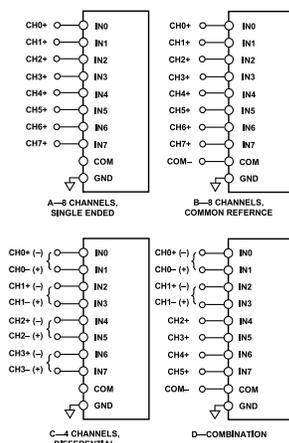

Figure 32. Multiplexed Analog Input Configurations
Figure 32 shows the different methods for configuring the analog inputs with the configuration register, CFG[12:10]. Refer to the Configuration Register, CFG section for more details.
- ▶ **Figure 32 (A)**, single-ended referenced to system ground, $CFG[12:10] = 111_2$. In this configuration, all inputs (IN[7:0]) have a range of GND to V_{REF} .
- ▶ **Figure 32 (B)**, bipolar differential with a common reference point, $COM = V_{REF}/2$, $CFG[12:10] = 010_2$. Unipolar differential with COM connected to a ground sense; $CFG[12:10] = 110_2$. In this configuration, all inputs IN[7:0] have a range of GND to V_{REF} .
- ▶ **Figure 32 (C)**, bipolar differential pairs with the negative input channel referenced to $V_{REF}/2$, $CFG[12:10] = 00X_2$. Unipolar differential pairs with the negative input channel referenced to a ground sense, $CFG[12:10] = 10X_2$. In these configurations, the positive input channels have the range of GND to V_{REF} . The negative input channels are a sense referred to $V_{REF}/2$ for bipolar pairs, or GND for unipolar pairs. The positive channel is configured with $CFG[9:7]$. If $CFG[9:7]$ is even, then IN0, IN2, IN4, and IN6 are used. If $CFG[9:7]$ is odd, then IN1, IN3, IN5, and IN7 are used, as indicated by the channels with parentheses in Figure 32 \(C\). For example, for IN0/IN1 pairs with the positive channel on IN0, $CFG[9:7] = 000_2$. For IN4/IN5 pairs with the positive channel on IN5, $CFG[9:7] = 101_2$. Note that for the sequencer, detailed in the Channel Sequencer section, the positive channels are always IN0, IN2, IN4, and IN6.
- ▶ **Figure 32 (D)**, inputs configured in any of the preceding combinations (showing that the AD7682/AD7689 can be configured dynamically).